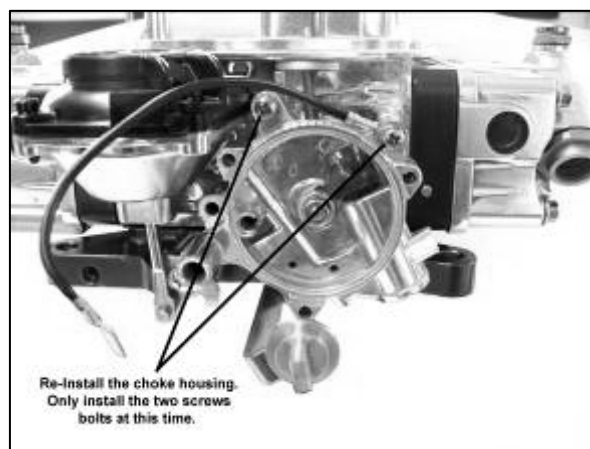

Figure 9
4. Make sure the cork gasket is still in place in the choke housing or main body. If it is not, attach it to the vacuum passage on the back of the choke housing. Re-attach the choke housing to the main body using only the top two screws as shown in figure 9 making sure the choke ground wire is behind the top right screw. . The third screw will be installed in a later step. It will help to open the throttle slightly to pull the fast idle lever away from the fast idle cam assembly.